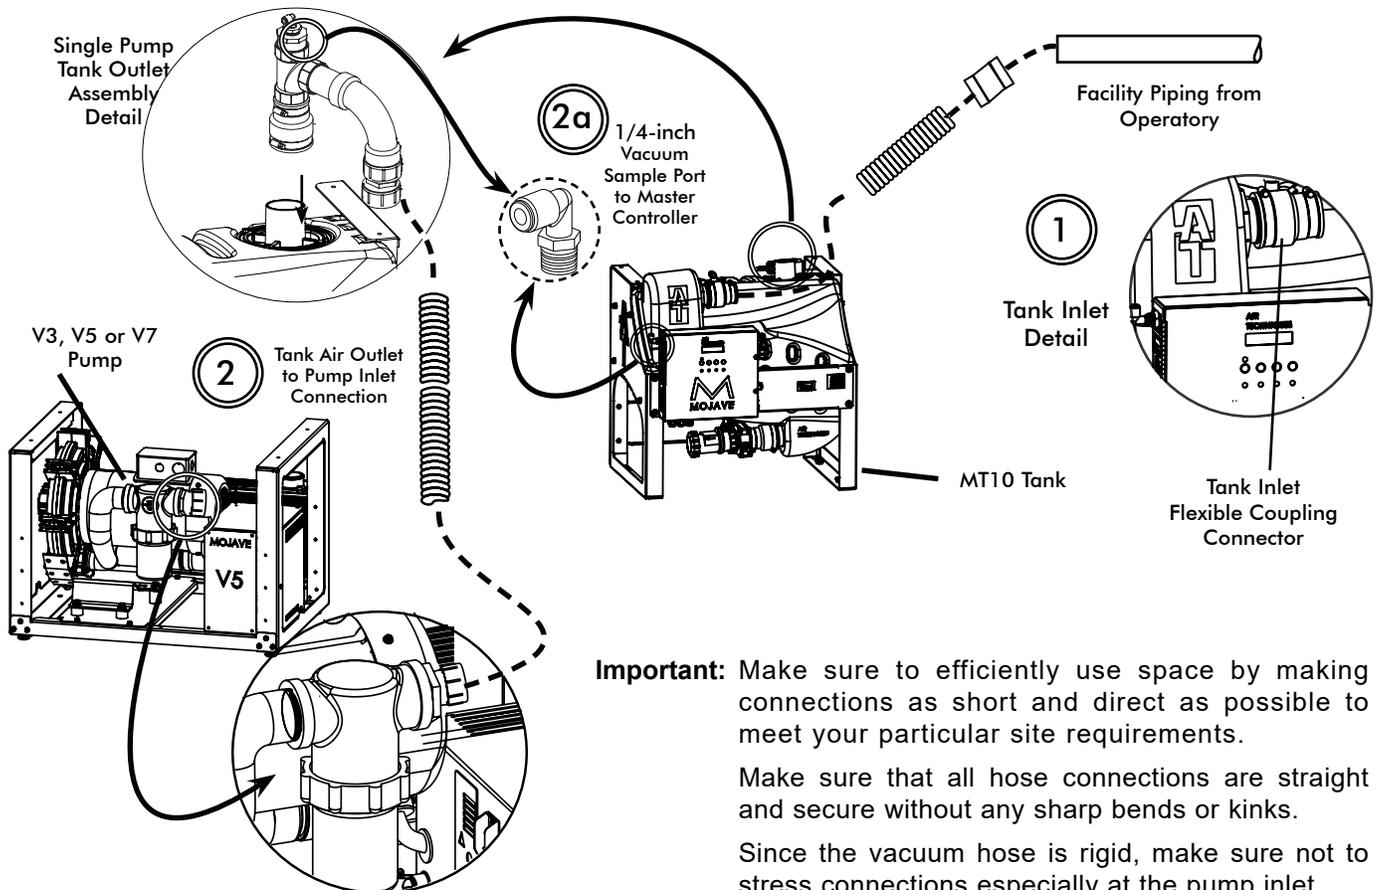

Figure 9. MOJAVE V3/V5/V7 Pump and MT10 Tank Connection Diagram, Sheet 1
- c. Install a length of 1/4 inch OD Urethane Tubing (P/N 51453) between the vacuum sample port and the vacuum inlet port of the Master Controller. See Figure 9, item (2a.)
3. **Exhaust Vent Assembly Installation.** Install the Exhaust Vent Assembly (P/N H5302) to the bottom end of the facility vent line. Install a length of 1/4 inch OD Urethane Tubing (P/N 51453) between the vent condensation drain port and facility sewer drain. See Figure 9, item (3).